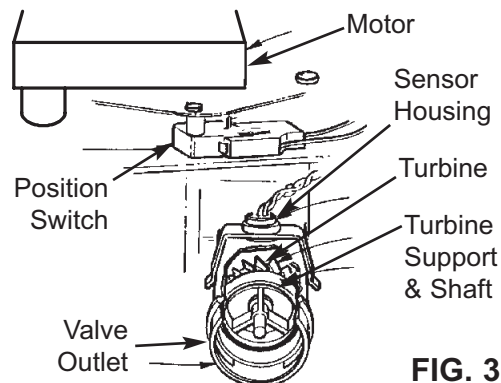

FIG. 30
**NOTE:** If you don't get a reading in the display with faucet open, pull the sensor from the valve outlet port. Pass a small magnet back and forth in front of the sensor. If you get a reading in the display with the magnet, unhook the in and out plumbing and check the turbine for binding (See Figure 30).